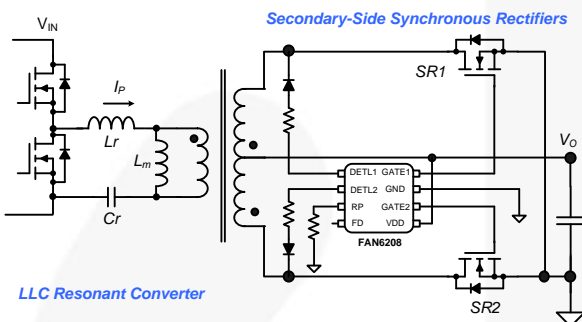
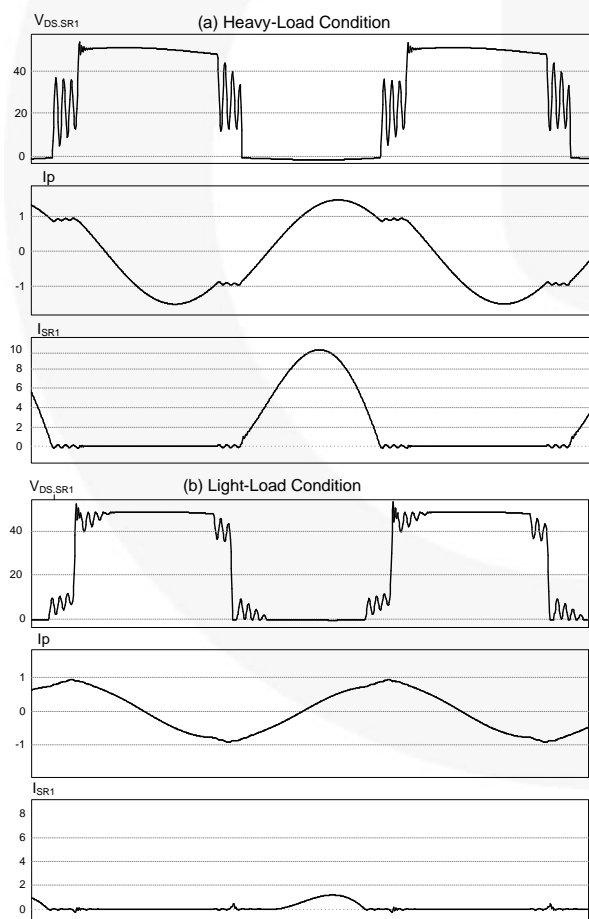
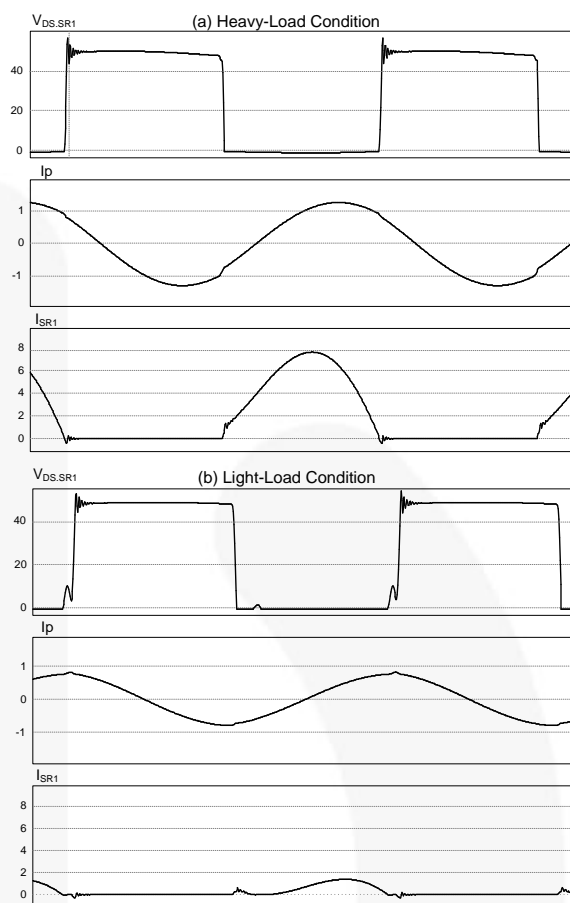
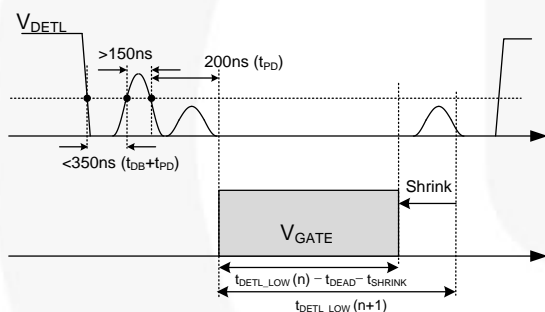

Figure 7. Simplified Schematic of LLC Converter
Figure 8. Key Waveforms of LLC Resonant Converter for Below Resonance Operation
Figure 9. Key Waveforms of LLC Resonant Converter for Above Resonance Operation
Figure 15. Gate Shrink by DETL Voltage Ringing Around Zero
FAN6208 is a secondary-side synchronous rectifier controller for LLC or LC resonant converters that drive two synchronous rectifier MOSFETs. Figure 7 is the simplified circuit diagram of an LLC converter. The FAN6208 determines SR MOSFET turn-on/off timing by detecting the drain-to-source voltage of each SR MOSFET. The key waveforms for LLC resonant converter for below resonance and above resonance are shown in Figure 8 and Figure 9, respectively.
- (c) When the DETL voltage has ringing around zero. As depicted in Figure 8, the drain voltage of SR has ringing around zero at light-load condition after the switching transition of the primary-side switches. When DETL voltage rises above 2 V within 350 ns after DETL voltage drops to zero and stays above 2 V longer than 150 ns, the gate is shrunk by 1.2  $\mu$ s ( $t_{SHRINK-RNG}$ ), as shown in Figure 15.